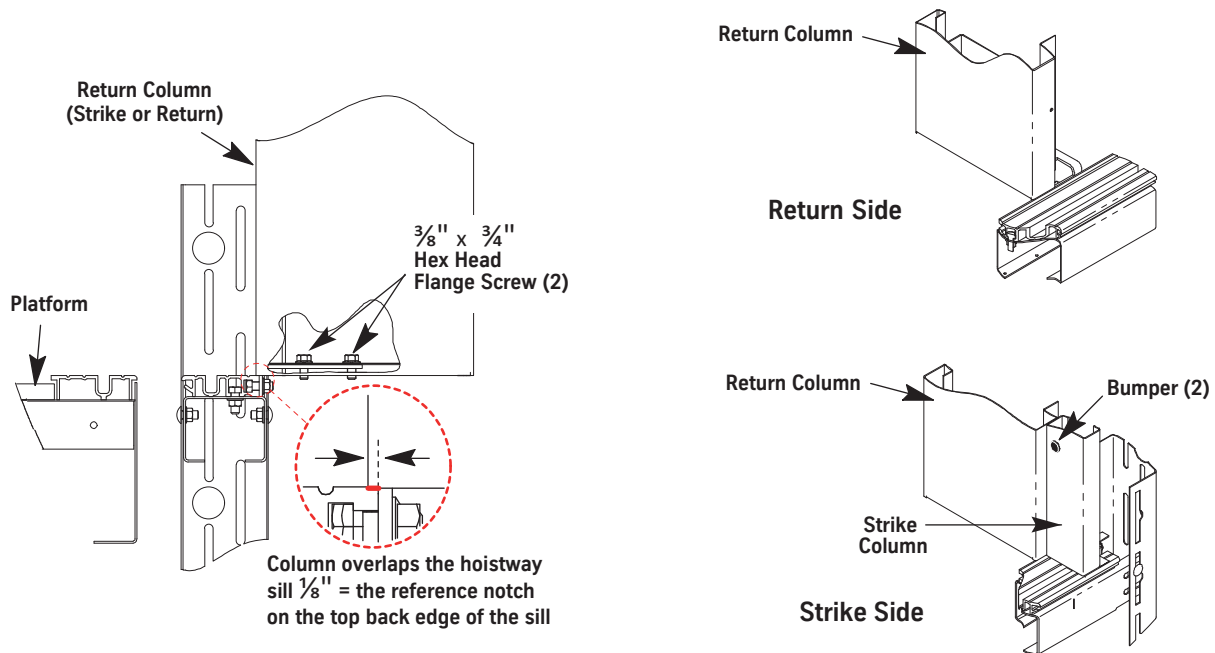

Figure 8 - Attach the Frame (standard sill shown)
2. Align the frame columns so that they overlap the hoistway sill $1/8$ " (the depth of the cutout on the top back edge of the hoistway sill). See Figure 8.